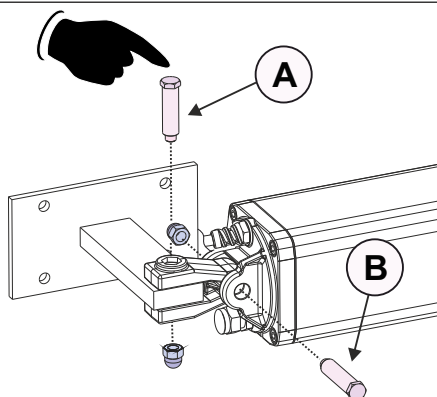

Fig. 18
- Place the swing fork on the rear bracket (*previously fixed to the gate frame*) - Fig. 18
- Insert the short brass pin (A) and the long pin (B) as shown in Fig. 18, using only manual pressure
- Secure the pins with their nuts - Fig. 18